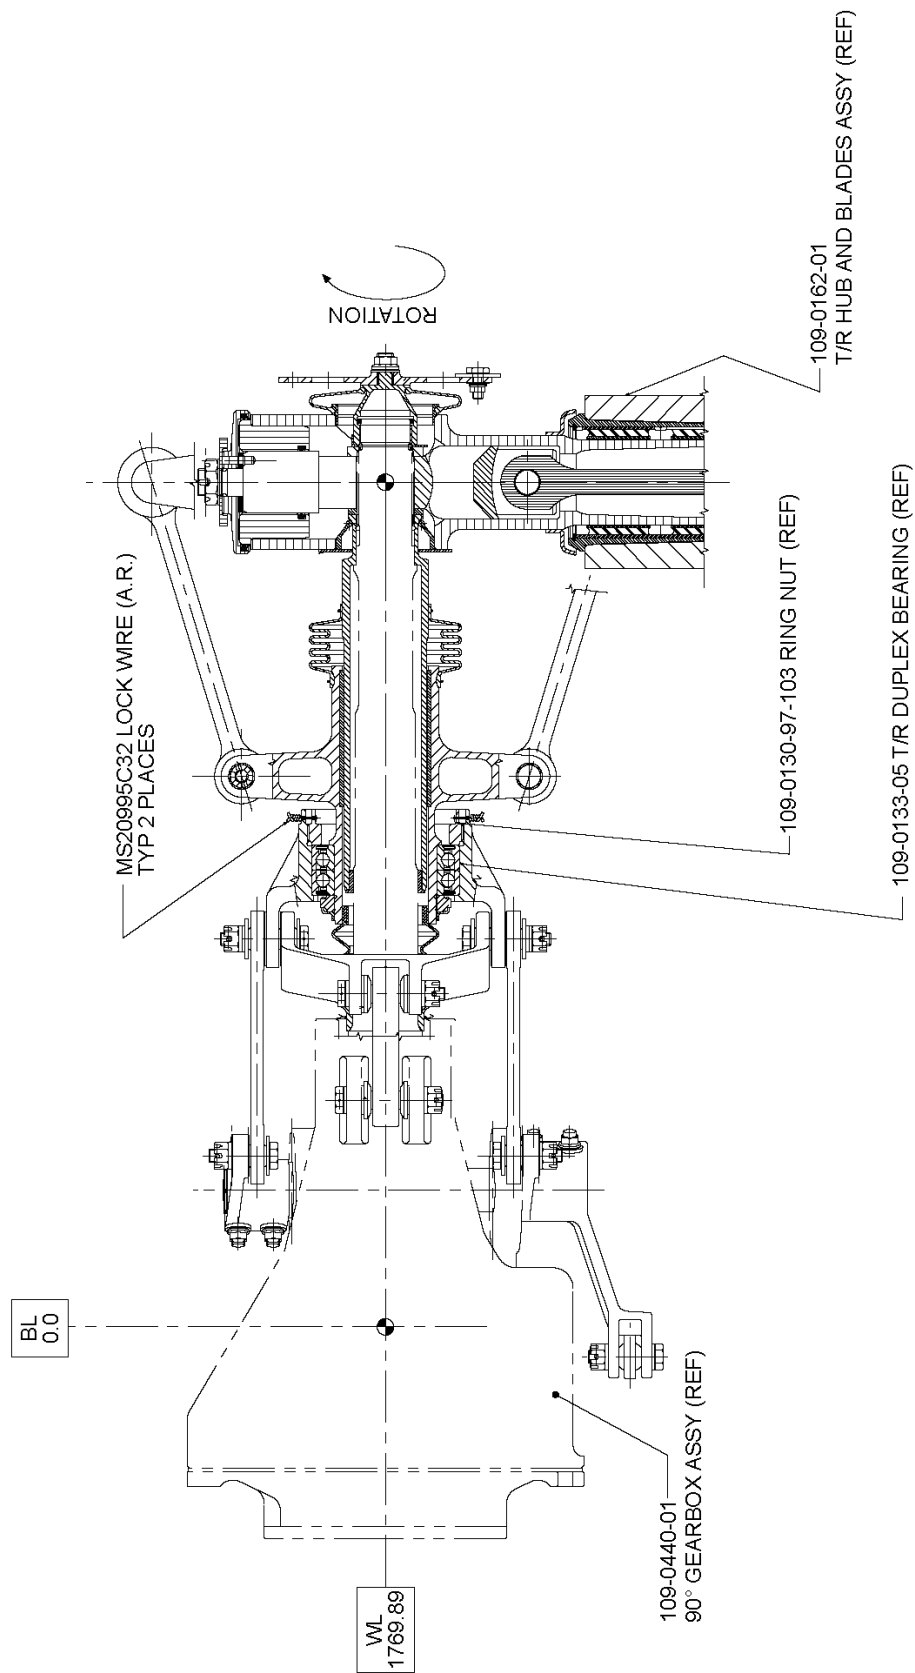

FIGURE 1
(See figure 1)
the duplex bearing locking nut P/N 109-0130-97-103 to the housing, for presence and condition (ref. figure 1).
2. Gain access to the tail rotor rotating controls P/N 109-0136-01 and visually inspect the two MS20995C32 lockwires, securing the duplex bearing locking nut P/N 109-0130-97-103 to the housing, for presence and conditions (ref. figure 1).